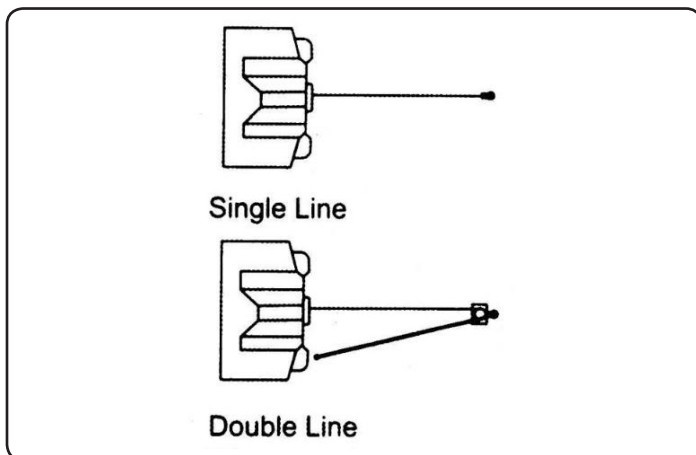

Figure 1.
- For heavy loads we recommend the use of a snatch block / pulley block to double your line and reduce the load on the winch cable. Remember your winch cable could snap before the motor stalls (Figure 1).